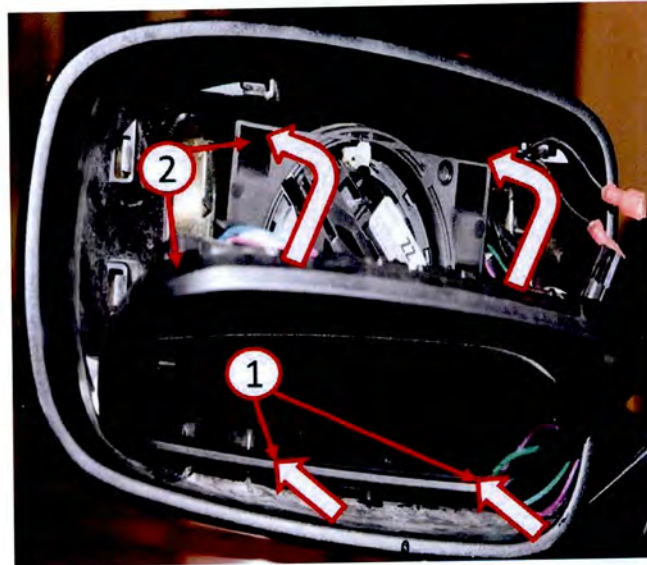

Fig. 8 Mirror Glass Case Installation
18. Reinstall the lower portion of the mirror glass case to motor by pushing the lower glass case "hooks" (1) into place (Fig. 8).
21. Swing the mirror glass case up and push until the upper glass case snaps (2) are fully seated on the motor (Fig. 8).